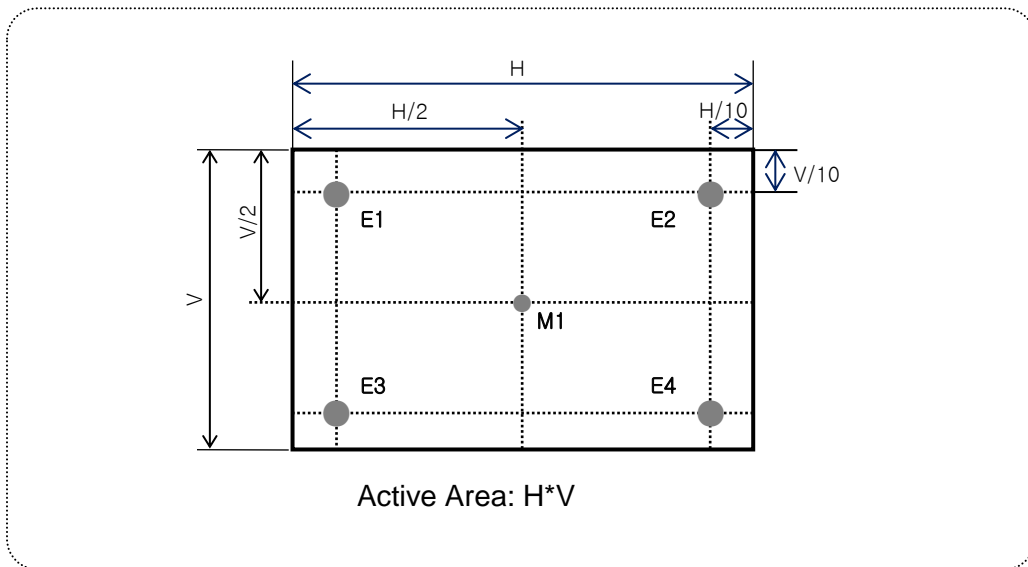

FIG.8 Measure Point for Luminance
2. Surface luminance(L_{WH})is luminance value at Center 1 point(P1) across the LCD surface 50cm from the surface with all pixels displaying white. For more information see FIG.8 (By PR880)
For more information see FIG.8
(Measurement points are 5points for FIG.8 Measure Point for Luminance.)